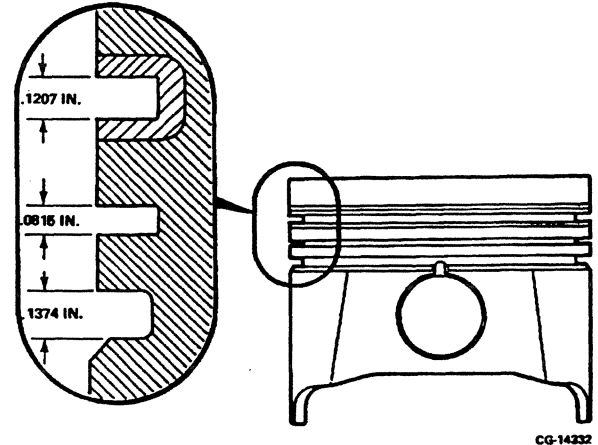

Figure 5.3A. Revised Piston Ring Groove Widths
- The piston was revised to accommodate the ring changes by increasing the corresponding ring groove widths. Refer to Figures 5.3A and 5.3B.